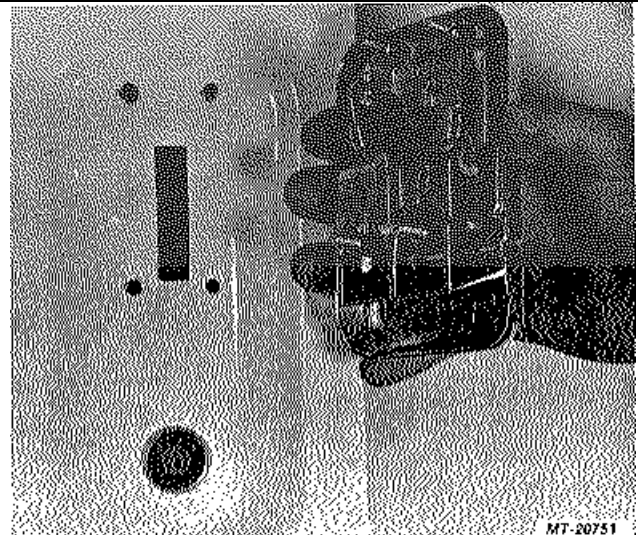

Fig. 24 Removing Door Outer Handle
3. Remove door outer handle from door (Fig. 24).